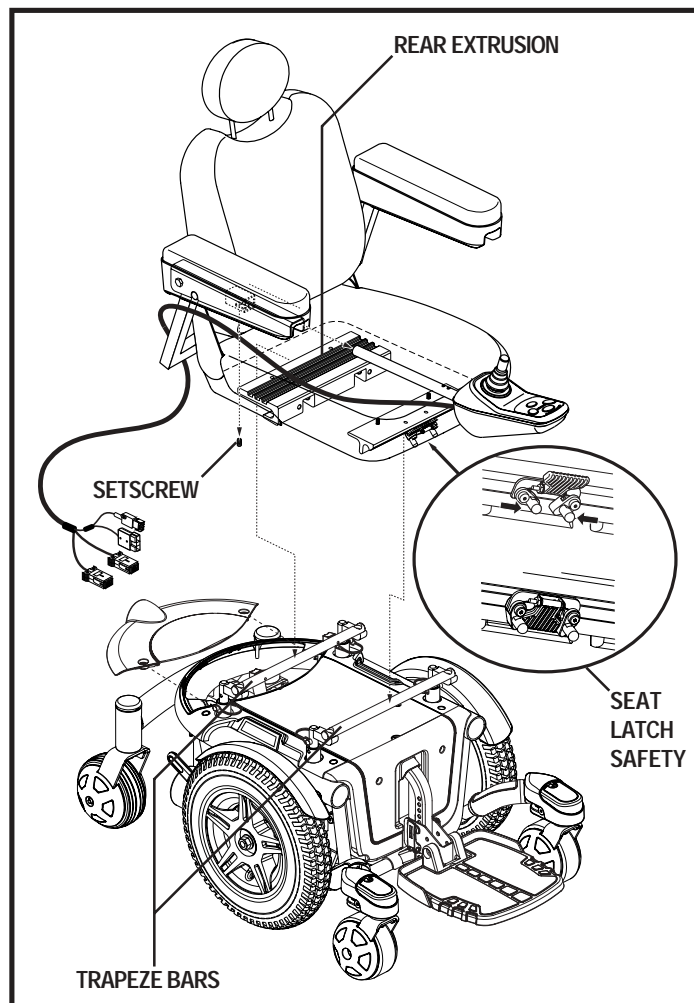

Figure 11. Universal Mounting System
It may be necessary to install the seat either prior to initial operation or after transporting your power chair. Most seats are attached to the power base with the Universal Mounting System (UMS). The UMS consists of universal parts that may be attached to any medium-back or high-back seat, regardless of seat width or seat depth. The two main components are aluminum extrusions mounted to the seat base. These extrusions attach to a pair of trapeze bars that are mounted to the power base. See figure 11.
1. Tilt the seat back and slide the rear extrusion onto the rear trapeze bar. See figure 11.
4. Install the controller into one of the armrests. Tighten the setscrew. See figure 11